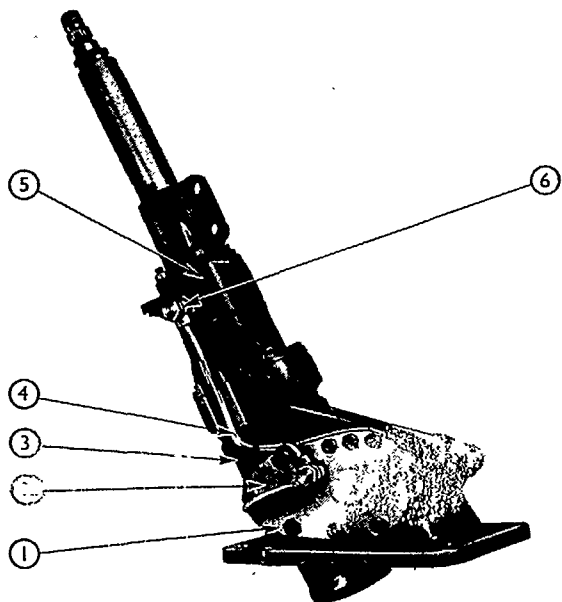

Figure 6
2. Remove the external oil feed/return pipe from the valve housing and main housing side cover, see Figure 6.
3. Unscrew the ten bolts retaining the side cover to the main housing, Figure 6, and remove the side cover, throttle rod bracket, gasket and rocker shaft end-float shim.